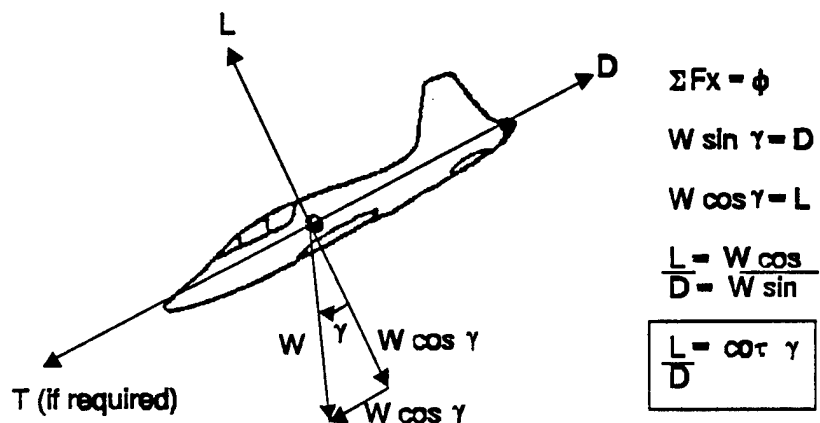
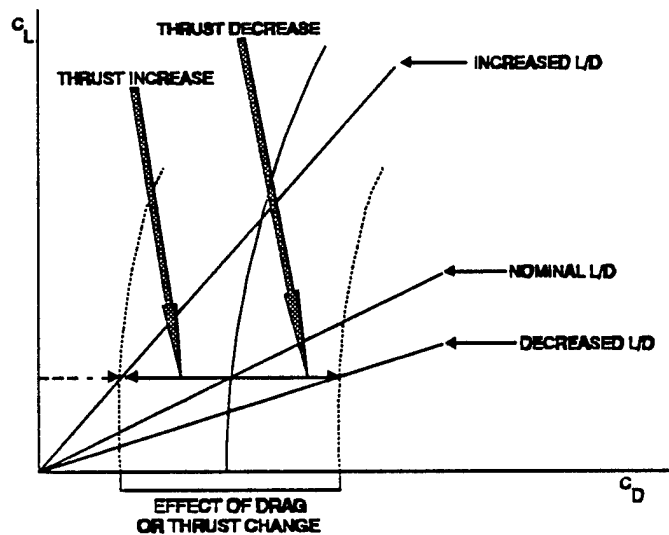

FIGURE 1
FIGURE 2
c. The particular L/D ratio of any unpowered vehicle defines the flight-path angle as shown in Figure 1. For training and simulation purposes, the simulator aircraft should be matched to the test aircraft's L/D or drag polar at the same equivalent airspeeds. Two primary methods used to obtain the desired L/D are changes in drag and airspeed; both will be investigated on this mission.
d. The first method of L/D control is variation in drag. In this case, C_L and the velocity profile remain constant and C_D is varied to adjust to the desired L/D . Since the T-38A must be flown in a set landing configuration to achieve the desired low L/D ratios, thrust (rpm) changes are made to simulate varying drag, and to compensate for changes in aircraft gross weight. Thrust settings are also varied to compensate for changes in altitude. Basically, rpm settings will be increased as gross weight decreases to offset the decreased component of the weight vector down the flight path (see Figure 1). The effect of thrust and drag variations on L/D (C_L/C_D) is shown on the drag polar in Figure 2. A list of approximate thrust settings for a